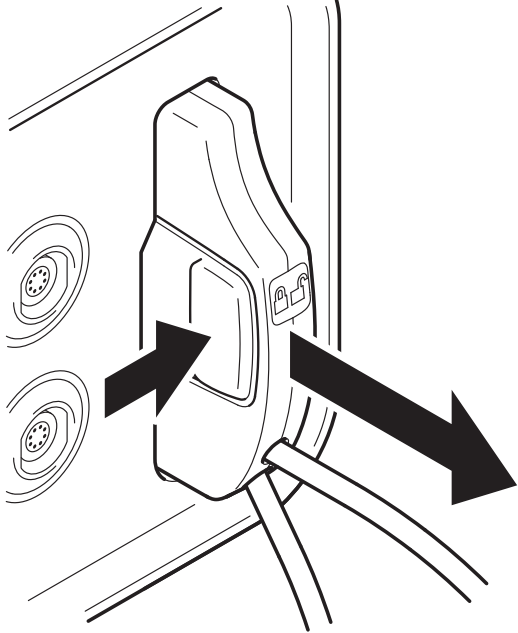

Figure 9 – To Remove an Irrigation Cassette
- 2.2. Remove the irrigation cassette (*Figure 9*).